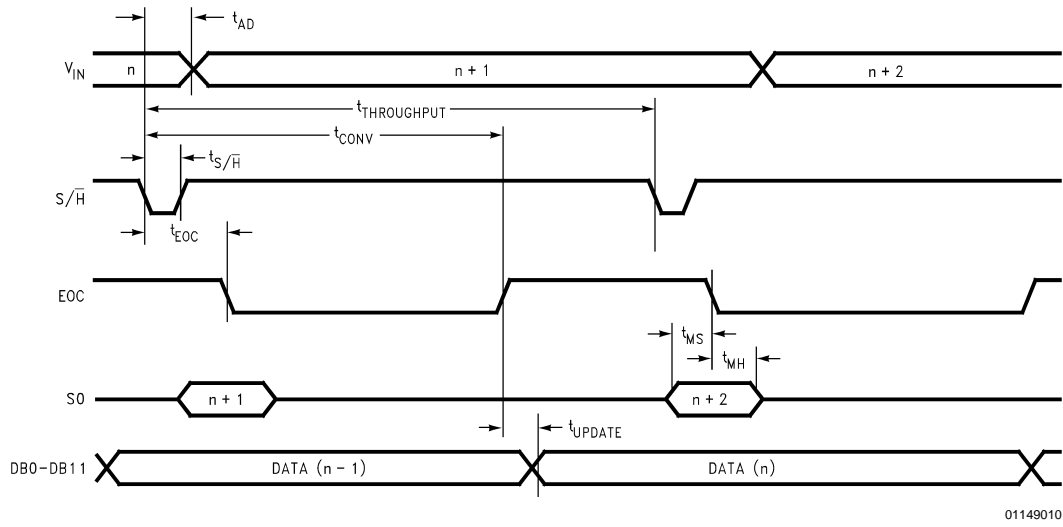

FIGURE 2. High Speed Interface Timing (MODE = 1, OE = 1, $\overline{CS} = 0$, $\overline{RD} = 0$)
- \overline{INT}** This is the active low Interrupt output. When using the Interrupt Interface Mode (Figure 1), this output goes low when a conversion has been completed and indicates that the conversion result is available in the output latches. This output is always high when \overline{RD} is held low (Figure 2).
The ADC12062 has two interface modes: An interrupt/read mode and a high speed mode. Figure 1 and Figure 2 show the timing diagrams for these interfaces.
This is the fastest interface, shown in Figure 2. Here the output data is always present on the databus, and the \overline{INT} to \overline{RD} delay is eliminated.
The ADC12062 has an input multiplexer that is controlled by the logic level on pin S0 when EOC goes low, as shown in *Figure 1* and *Figure 2*. Multiplexer setup and hold times with respect to the S/H input can be determined by these two equations: